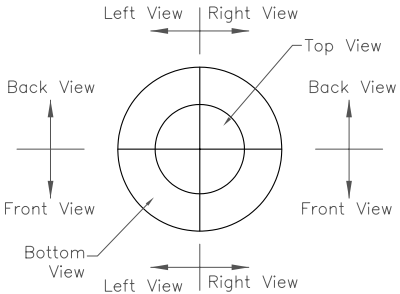

Figure 2-26 The directions of the compass
1. If you select a point inside the smaller circle in the first quadrant, the resultant view will be the Right, Back, or Top view. If you select a point outside the smaller circle and inside the bigger circle in this quadrant, the resultant view will be the Right, Back, or Bottom view, refer to Figure 2-26.
the bigger circle in this quadrant, the resultant view will be the Left, Back, or Bottom view, refer to Figure 2-26.
- 3. If you select a point inside the smaller circle in the third quadrant, the resultant view will be the Left, Front, or Top view. If you select a point outside the smaller circle and inside the bigger circle in this quadrant, the resultant view will be the Left, Front, or Bottom view, refer to Figure 2-26.
- 4. If you select a point inside the smaller circle in the fourth quadrant, the resultant view will be the Right, Front, or Top view. If you select a point outside the smaller circle and inside the bigger circle in this quadrant, the resultant view will be the Right, Front, or Bottom view, refer to Figure 2-26.